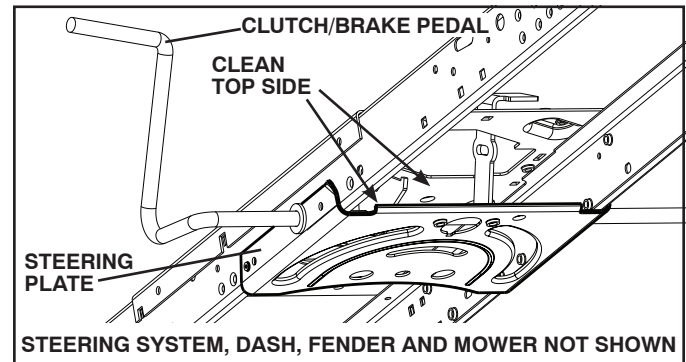

Fig. 23
- Clean debris from steering plate. Debris can restrict clutch/brake pedal shaft movement, causing belt slip and loss of drive. (See Fig. 23.)